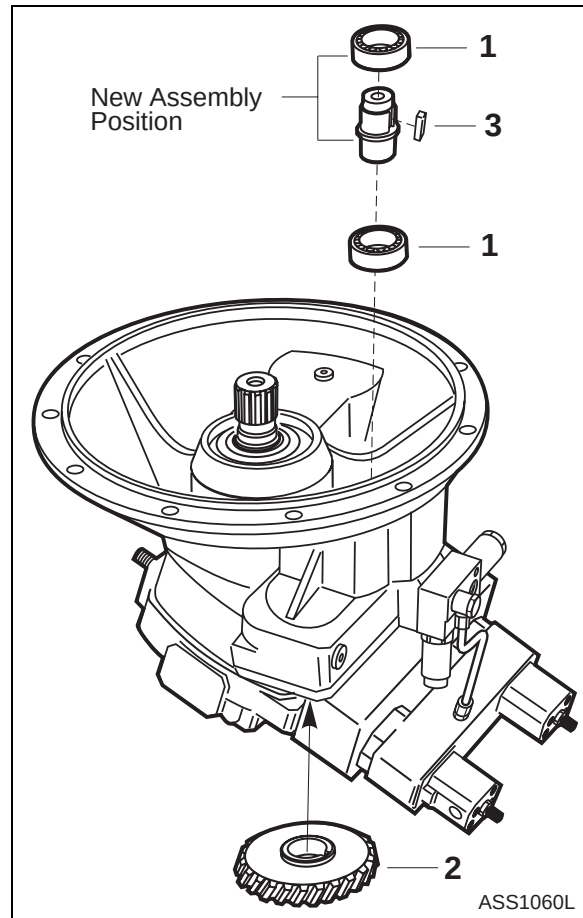

Figure 107
1. Press bearing (1, Figure 107) into housing.
2. Install and align intermediate wheel (2, Figure 107) through side drive opening.
3. Cool down bolt (3, Figure 107) with nitrogen and install it.
4. Press in bearing (4, Figure 107).